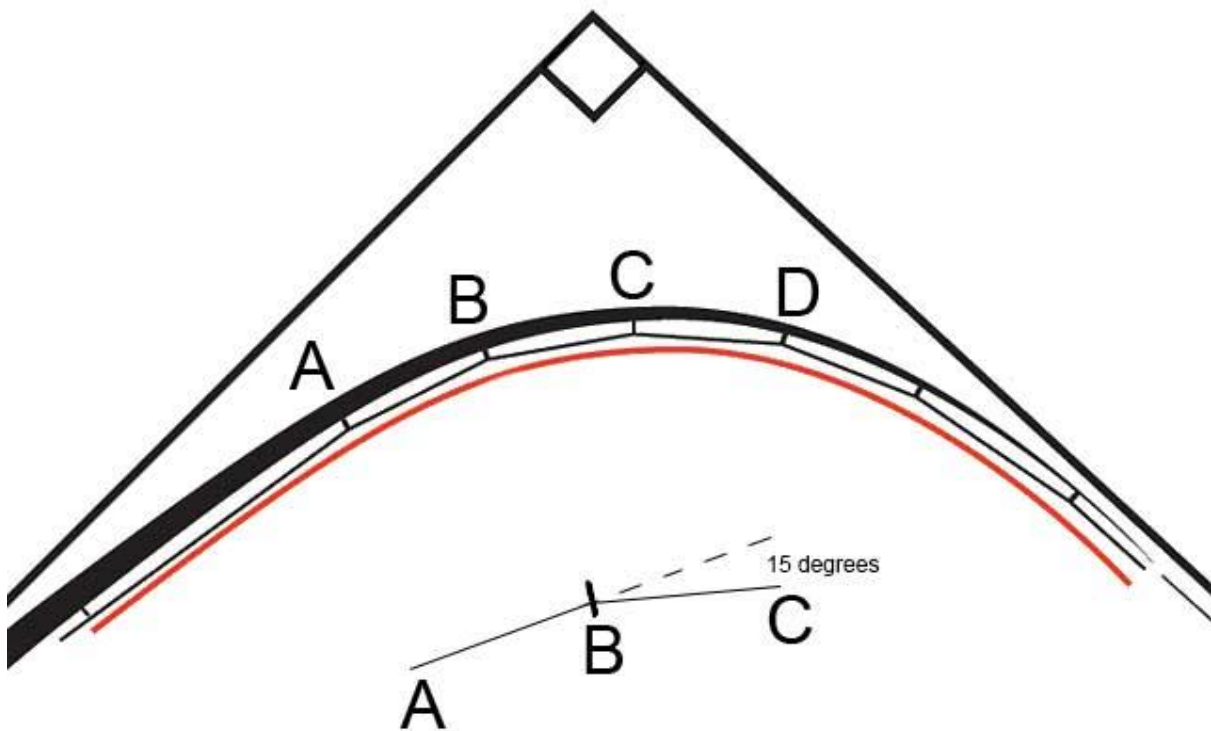

Figure 5-2 Good Spacing
4. For this step you need put the rod under pressure and create a 90 degree bend (critical angle). Mount the rod in a rod holder at an angle of 45 degrees. Attach the line to a weight and position it so that the line is bending the rod to form a 90 degree angle. See figure 5.2.